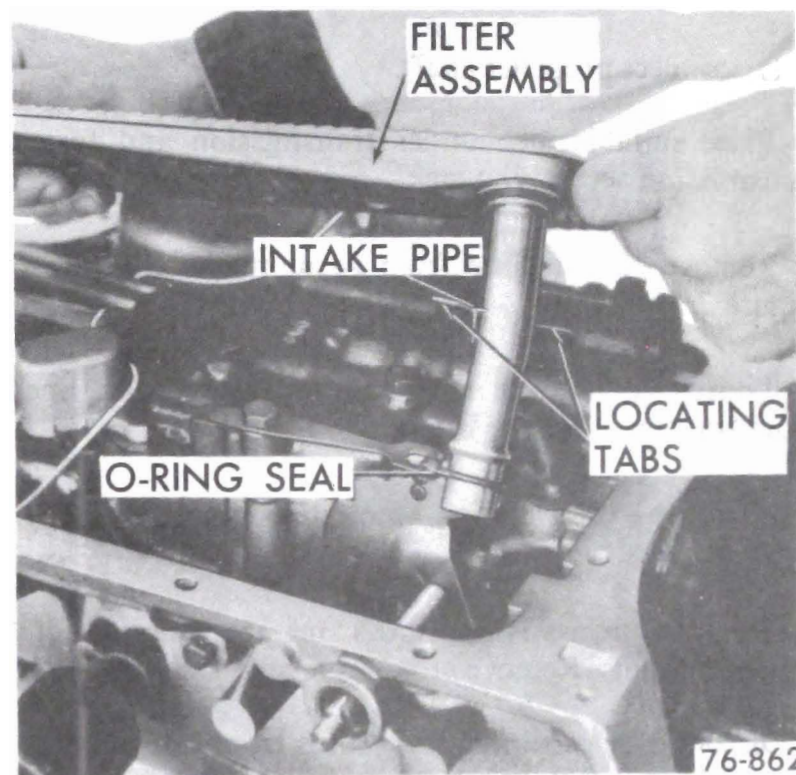

Figure 76-48
8. Remove filter and intake pipe assembly. Discard filter. See Figure 76-48.
9. Remove intake pipe to case "O" ring seal and discard. See Figure 76-48.
1. Install new case to intake pipe "O" ring on intake pipe and new filter assembly. See Figure 76-48.